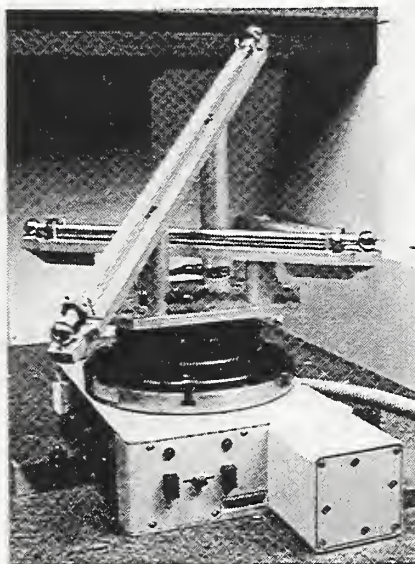

Figure 24. Manual/Rotary system and rotary table
- Step 3. Attach the ball bar support structure and ball bar (see Figure 24):